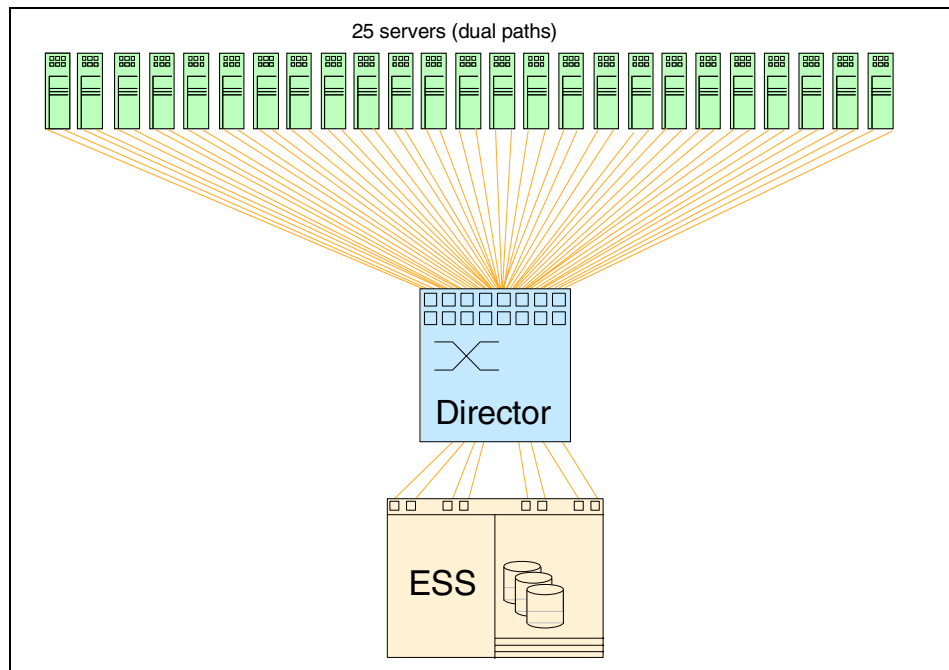
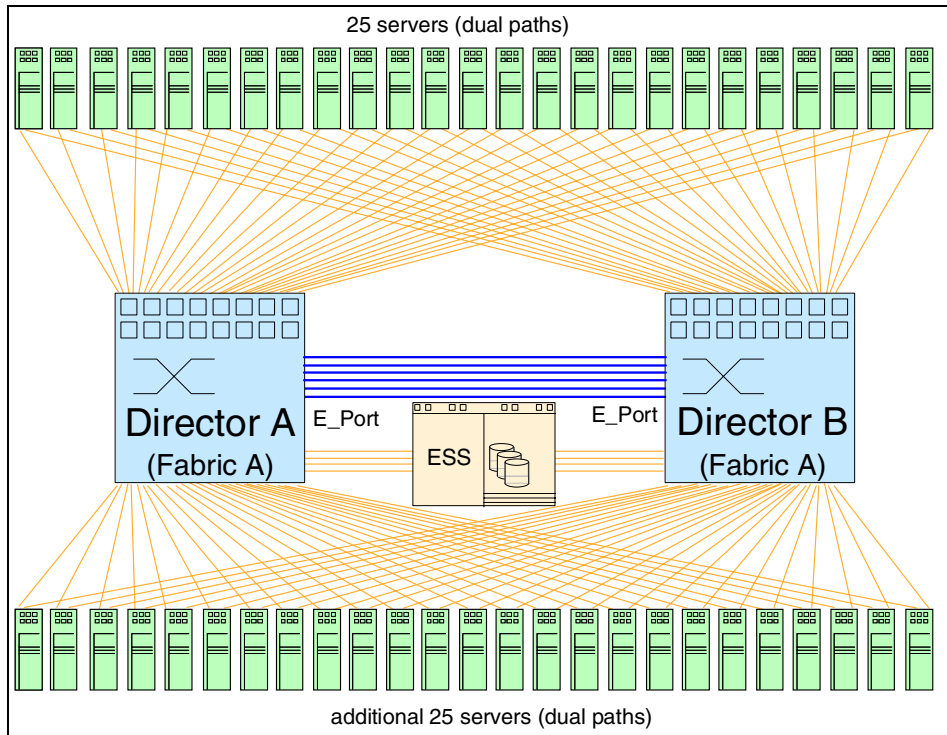

Figure 15-1 High performance design
Figure 15-2 Expanding the SAN fabric via E\_Ports
One type of oversubscription would be the number of servers associated with a storage port. It is very difficult to work out the ratio of server ports to storage ports. The solution we show in Figure 15-1 illustrates how a general high performance profile could be applied to a SAN design using a director and a single ESS.
Based on our performance profiling we could expand our solution and connect two directors together using dual E\_Ports, as shown in Figure 15-2. Each director now has four connections to the ESS. We have now created a higher availability SAN that could support 100 device connections (assuming 50 servers with dual HBAs) attached. This design provides protection against any possible failure of a director.
In the example in Figure 15-2 we have connected two 64 port directors together. We have kept a spare card (4 ports) in each for the re-cabling or re-connecting of devices immediately in the event of a port or UPM card failure.
These are some theoretical assumptions based on Figure 15-1:
- ▶ If the backplane was damaged we would lose connectivity to all servers at that site. The solution in Figure 15-2 provides protection against a backplane failure.
- ▶ For both Figure 15-1 and Figure 15-2 a failure in the SAN fabric itself will cause a loss of connectivity for all devices.